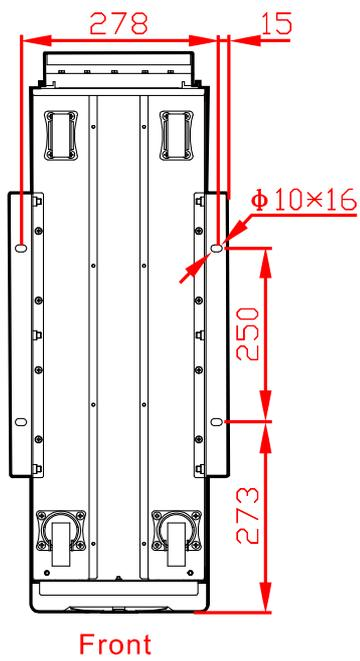

Figure3-8 10/10S/10T/15/15S/15T/20/20S/20T installation holes size of pedestal (bottom view, unit: mm)
The wiring terminals recommend type as shown in Figure3-8. If users have additional terminals required, please check dimensions to ensure proper selection according to Table3-9.
Step 2 Drill 4φ10 holes on the ground by impact drill according to the installation holes size of pedestal. The pedestal installation holes size of each model is as shown in Figure3-8, Figure3-9 (drilling deviation ± 2mm). Install expansion bolts M8. The structure and installation for the expansion bolt is as shown in Figure3-10.